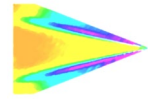

**Figure 16: Camera Synchronization with CAL-04**
In Figure 16, the camera acquisition software ProAcquire for the PSP-CCD-C/M is shown in use with the PT Controller software. The camera was set up to acquire 147 images, the total number needed for the auto-calibration shown at the right (P step (21) x T step (7) = 147). The camera needs to be set to acquire the same number (or greater) of images as conditions the calibration system will step through. As stated on page 18, if averaging images by using multiple pulses per point, the number of camera frames needs to be multiplied by the number of averages.